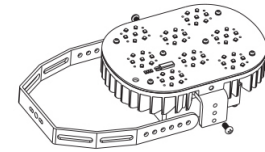

Fig. 1
- Attach U-Bracket to lamp using Phillips head M4 screws. Do not tighten (Fig. 1).